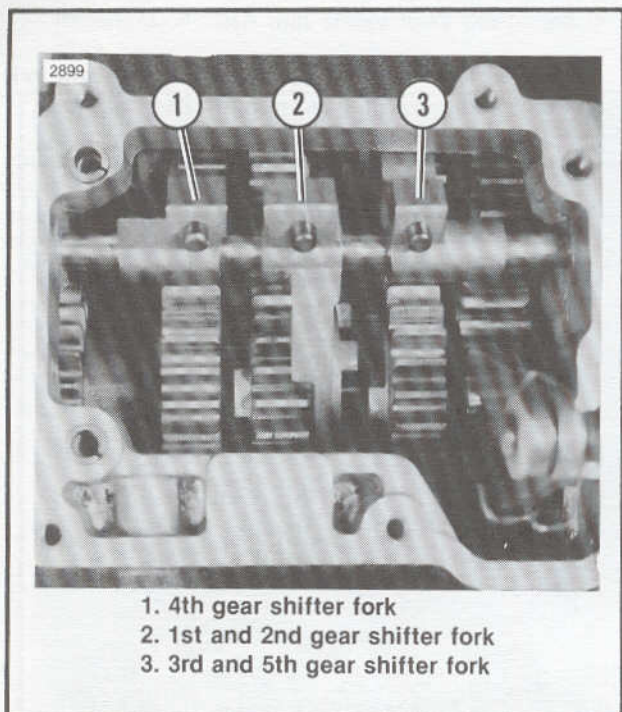

Figure 7-10. Fork Position in Transmission
2. See Figure 7-10. Insert shifter fork (1) into the slot of the mainshaft 1st gear. Insert shifter fork (2) into the slot of the countershaft 3rd gear and insert shifter fork (3) into the slot of the mainshaft 2nd gear.